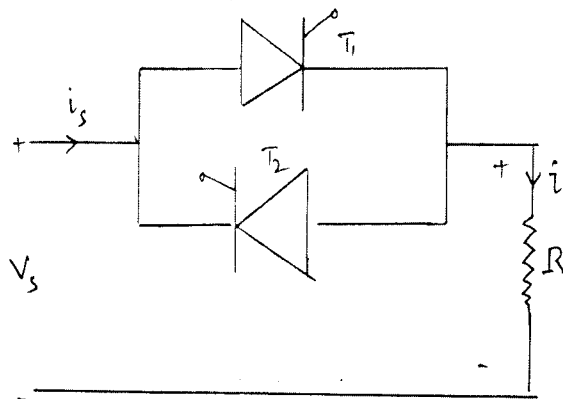

Fig Q5(c)
- c. An AC voltage controller in Fig Q5(c), has a resistive load of  $R = 10\Omega$  and the root mean-square input voltage is  $V_s = 120V$ , 60Hz. The thyristor switch is ON for  $n = 25$  cycles and is OFF for  $m = 75$  cycles. Determine: i) The rms output voltage  $V_o$  ii) input power factor (PF) and iii) The average and rms current of thyristors.